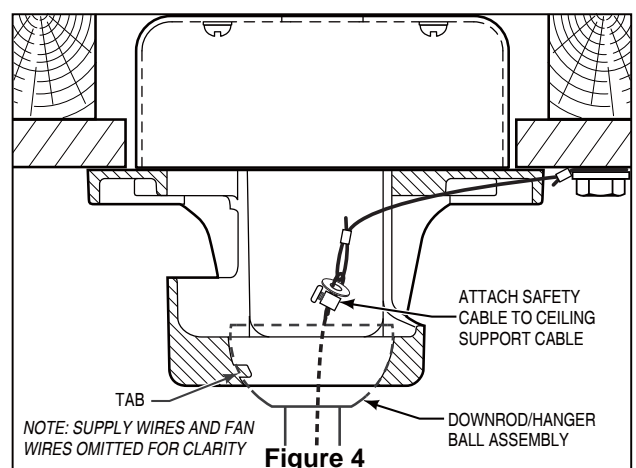

Figure 4
- 4. Slide downrod into the downrod support on top of the motor. Install the clevis pin by aligning the holes in the downrod support with holes in the downrod. Secure clevis pin with hairpin clip. Tighten the two set screws with nuts in the downrod support. (Figure 4)
4. Carefully lift the fan and seat the downrod/hanger ball assembly on the hanger bracket that was just attached to the outlet box. Be sure the groove in the ball is lined up with tab on the hanger bracket (Figure 4)
5. Attach the safety cable to ceiling support cable. Slide cable clamp and washer onto safety cable (from fan). Place the end of cable through the loop of ceiling support cable. Pull as much cable through loop as possible. Feed end of cable into clamp hole and firmly tighten screw (Figure 4).